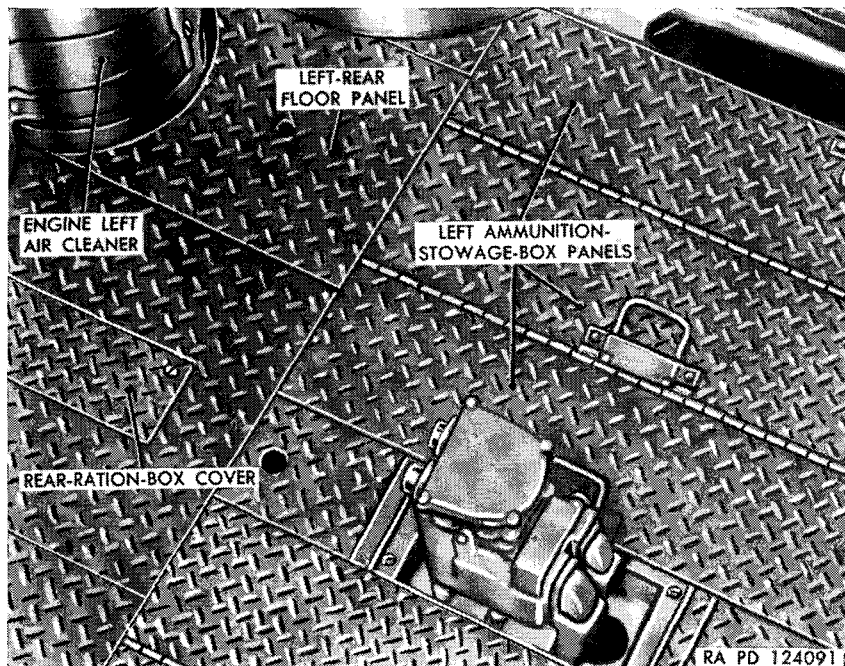
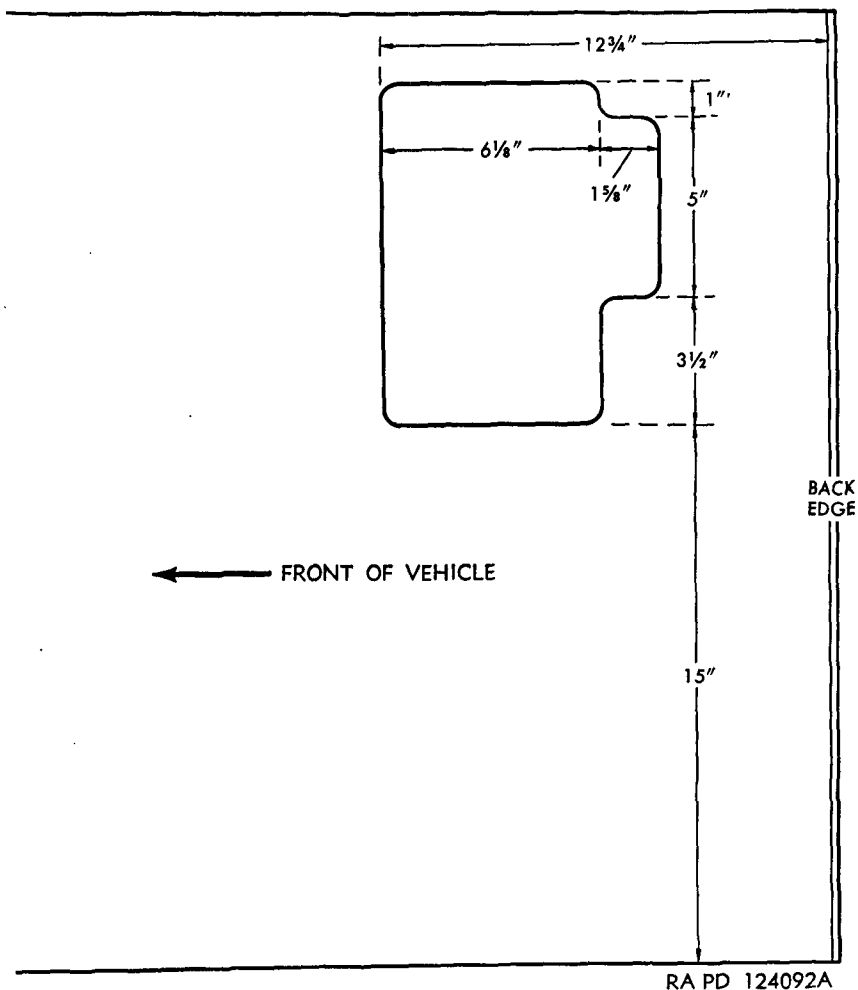

Figure 22. Parts to be removed from turret compartment.
Figure 23. Location of opening to be cut in left-ammunition-stowage-box panel.
i. Remove that section of left-rear floor panel directly in front of the engine left air cleaner (fig. 22). Remove the cal. .30 ammunition box located under this plate, and also remove the air cleaner (fig. 22).
j. Remove the ammunition-stowage-box plates on the left side of the turret (fig. 22), and remove all the 90-mm ammunition racks on this side, except the rack against the left side of the hull.
k. Remove the rear ration-box cover, located directly behind the slip-ring box, and remove the rear ration box (fig. 22).
a. Remove the left-ammunition-stowage-box panel (fig. 22) and lay out on the left face of the panel, the outline of an opening to be cut as shown in figure 23.